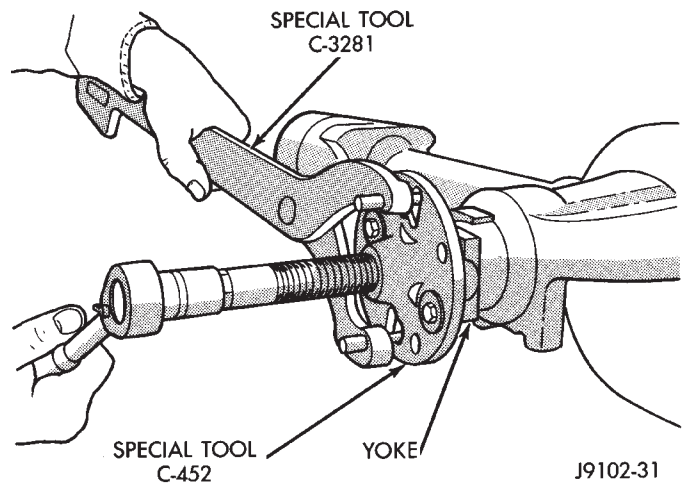

Fig. 10 Pinion Yoke Removal
(9) Use Remover C-452 and Wrench C-3281 to remove the pinion yoke (Fig. 10).